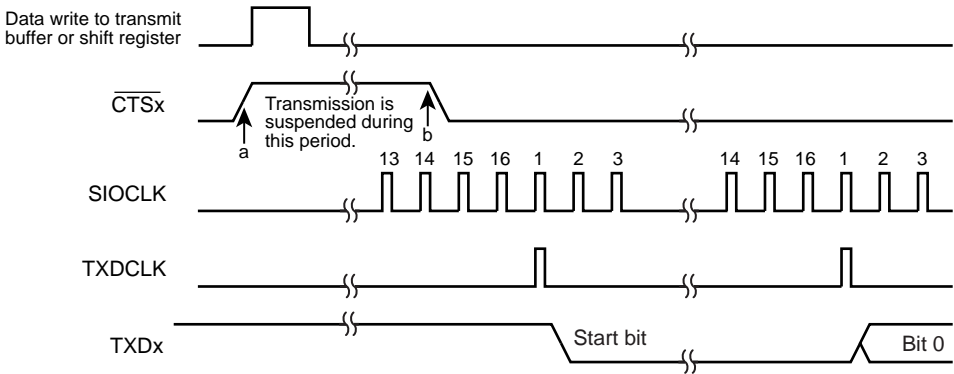

Figure 11-9 $\overline{\text{CTSx}}$ Signal timing
- Note 1: If the $\overline{\text{CTSx}}$ signal is set to "High" during transmission, the next data transmission is suspended after the current transmission is completed (Point "a" in Figure 11-9).
- Note 2: Data transmission starts on the first falling edge of the TXDCLK clock after $\overline{\text{CTSx}}$ is set to "Low" (Point "b" in Figure 11-9).